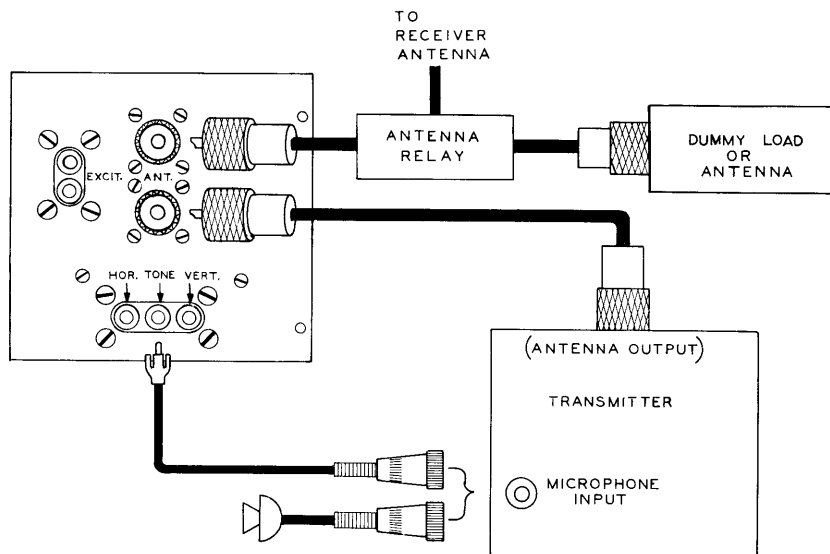

Figure 2
**TRANSMIT ENVELOPE PATTERNS (FIGURE 2)**
2. Connect the scope to the transceiver as shown in Figure 2 on Page 43.